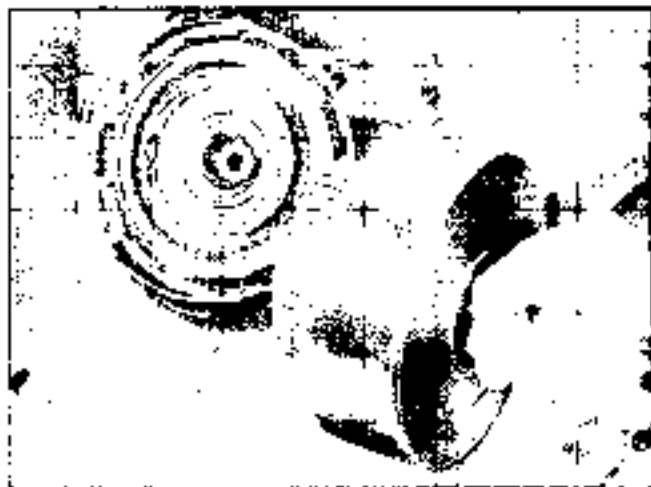

Fig. 7E-32 Removing Forward Clutch Assembly and Turbine Shaft
5. Remove forward clutch assembly and turbine shaft from transmission (Fig. 7E-32).